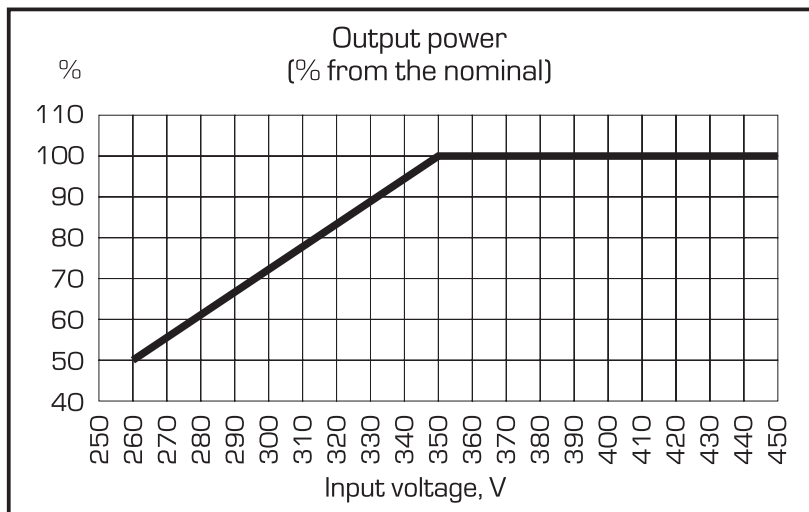

Fig.1
* power calculation is made for stabilizer with input voltage from 350 V. If the voltage less than 350 V, please look fig.1